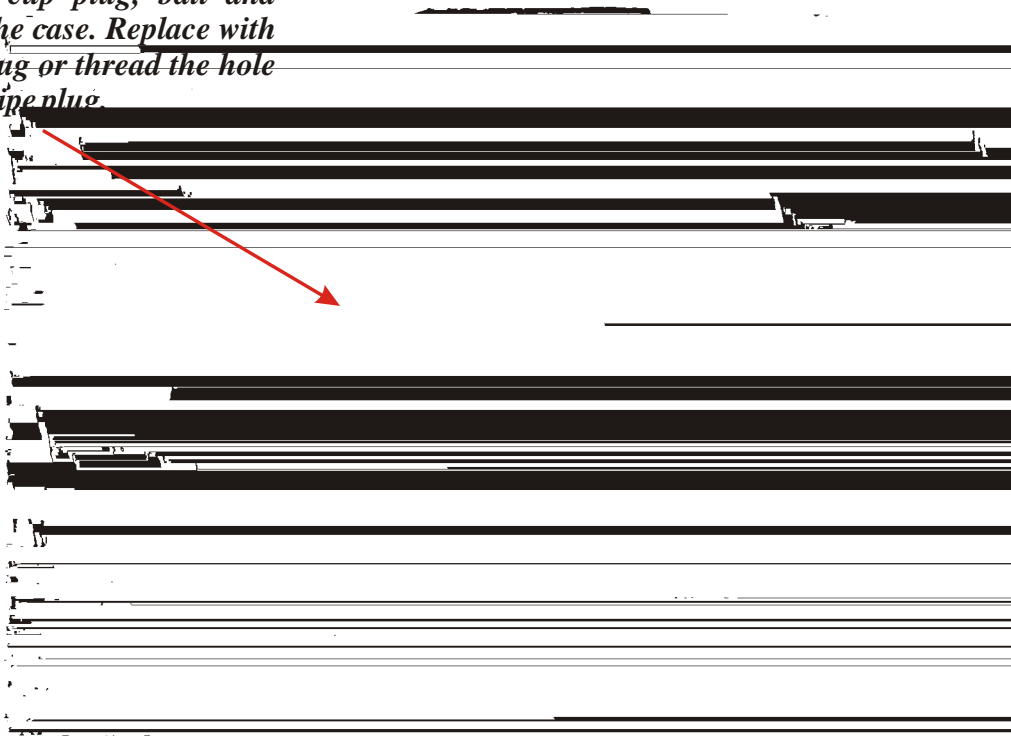

Figure 7
7. Remove bushing from the front sun gear and leave it out (*Refer to Figure 7*). This will allow more lube to pass through the sun gear to the front planetary. **Note**, if a new front sun gear shell is purchased from the factory, no bushing will be installed in the sun gear. Do not install a bushing into a new sun gear shell.